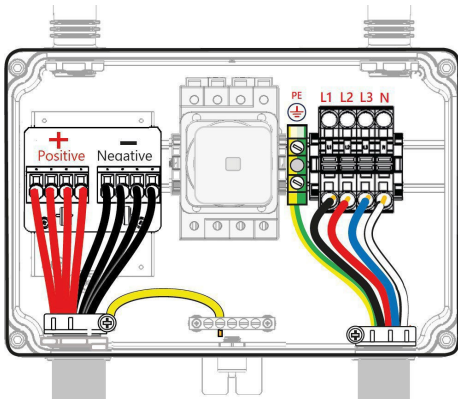

Figure 21: Connection Unit with four DC pairs
4. Mark the location of the drilling hole required for the screw that secures the bracket of the Connection Unit to the wall (See Figure 21) and remove the inverter from the wall.